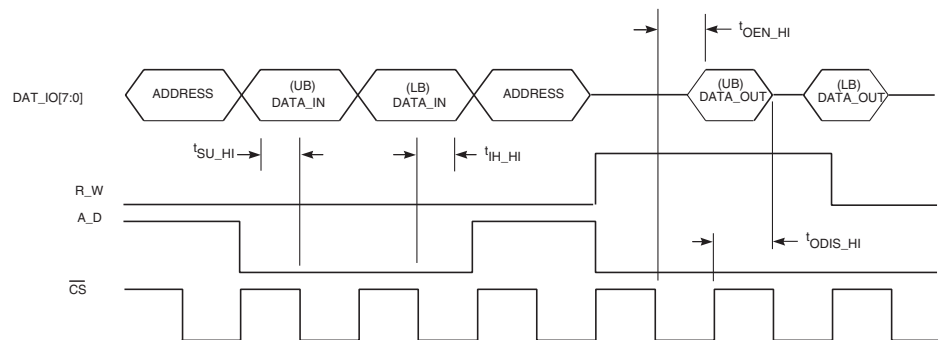

Figure 3-10: Write Cycle to the Parallel Interface
A write cycle to the parallel interface is shown in Figure 3-10: Write Cycle to the Parallel Interface. First an 8-bit address word is provided to the DAT_IO bus by asserting the R_W pin to LOW and the A_D pin to HIGH. The MSB of the address word contains an auto-update flag, which allows automatic configuration of predefined registers. The 5 LSB's of the address word contain the address location for the read or write operation. The remaining address bits DAT_IO[6:5] are reserved. The address word is registered on the falling edge of \overline{CS} . Following this, the A_D pin is driven LOW and two data words are sent upper byte (UB) word first and are each clocked in on the falling edge of \overline{CS} . Two 8-bit data words must follow each address word to occupy each 16-bit parameter, which are defined in Figure 3-11: Host Interface Register Allocation.